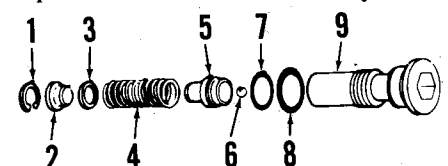

Fig. 217—Exploded view of hydraulic pressure relief valve used on TW-10, TW-20 and TW-30 models.
Fig. 216—Exploded view of pump adapter plate and valve assembly. On models equipped with remote control valves, valve units are mounted between adapter plate and manifold (1). Adapter plate (39) is serviced as complete plate and valve assembly only; all other parts are available separately. Flow control valve spool (20) is select fit to bore size in adapter plate. See Fig. 217 for exploded view of pressure relief system used on Models TW-10, TW-20 and TW-30.
To disassemble relief valve, refer to Fig. 217 and remove snap ring (1) and cap (2); take care not to lose any shims